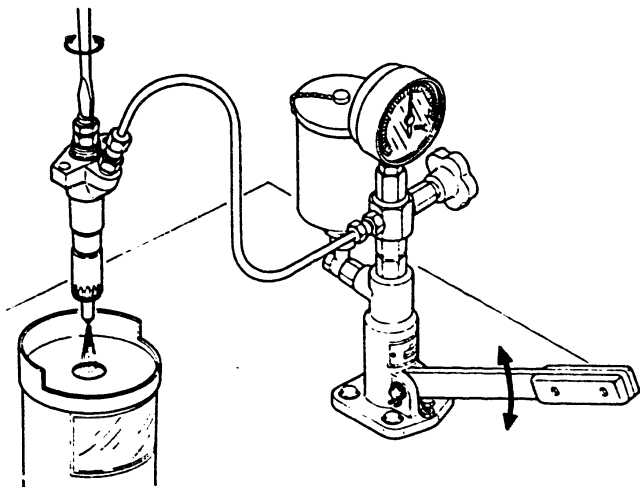

Fig. 42 Checking the first nozzle opening pressure, etc.
2. Fit the assembled two-spring nozzle holder to the nozzle tester, and check the first nozzle opening pressure, spray pattern, chatter and leakage, etc. (Fig. 42).